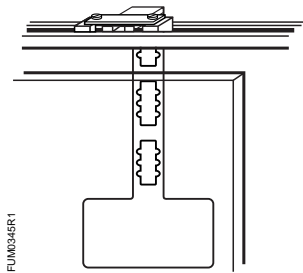

Figure 16. Location of Horizontal Linkage.
1. Estimate the mounting position of the linkage (approximately 1 inch from the top edge of the sash) (Figure 16).